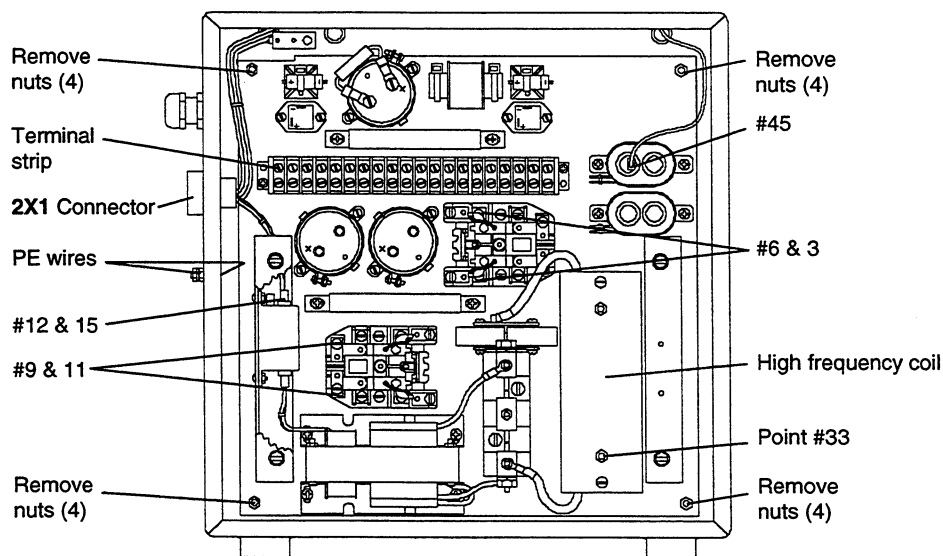

Figure 2 Old High Frequency Panel (typical)
Removing Old High Frequency Panel - Fig. 2
2. Open the door to the RHF console to expose the high frequency components. See Fig. 2.
Note: The old high frequency panel may or may not look exactly like the one depicted in Fig. 2.